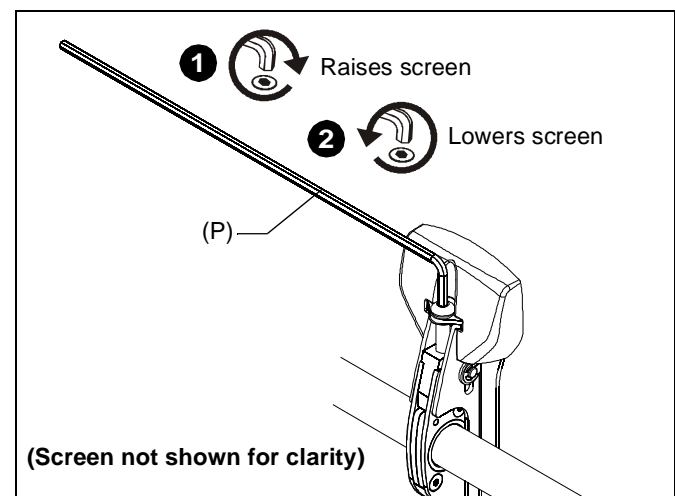

Figure 11
1. Turn to right (tighten) to raise side of screen. (See Figure 11)